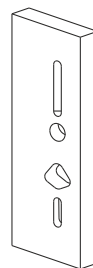

Fig. 2
- Remove MARKER and drill holes on marked points as per dimension mentioned on MARKER. Ref Fig. 2